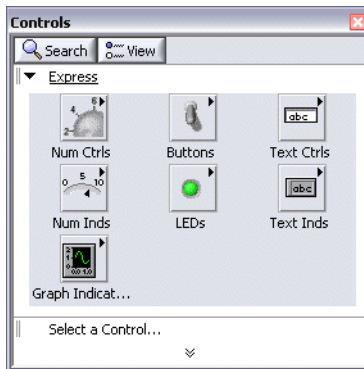

Figure 1-4. Controls Palette
1. If the **Controls** palette, shown in Figure 1-4, is not visible on the front panel, select **View»Controls Palette** to display it. The **Controls** palette opens with the **Express** subpalette visible by default. If you have selected another subpalette, you can return to the **Express** subpalette by clicking **Express** on the **Controls** palette.